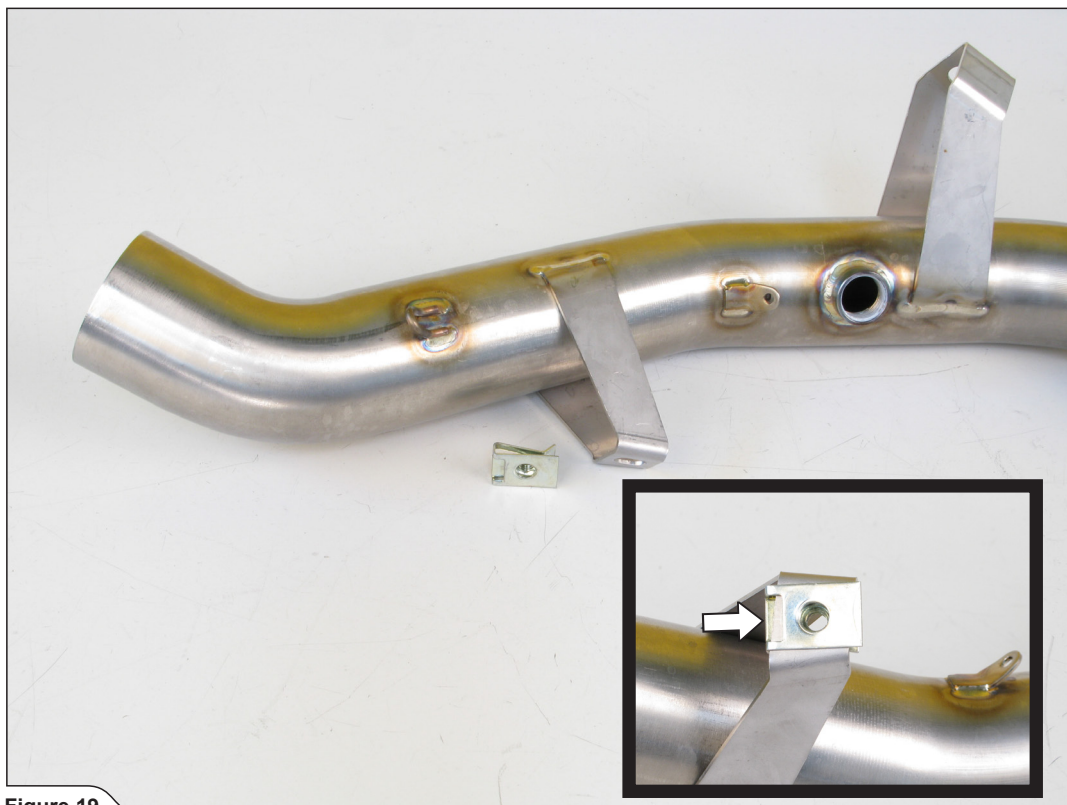

Figure 19
5. Assemble the press-on nut from Akrapovič installation kit, onto the marked link pipe's bracket (**Figure 19**).